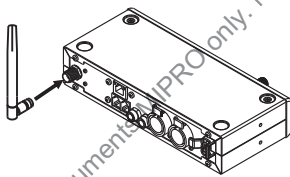

Fig. 2
- (A) Rear Antenna Installation: Attach supplied antenna to the antenna connector ⑩. Ensure both the antenna and the transmitter have the same frequency band for optimal transmitting efficiency, as Fig. 2: